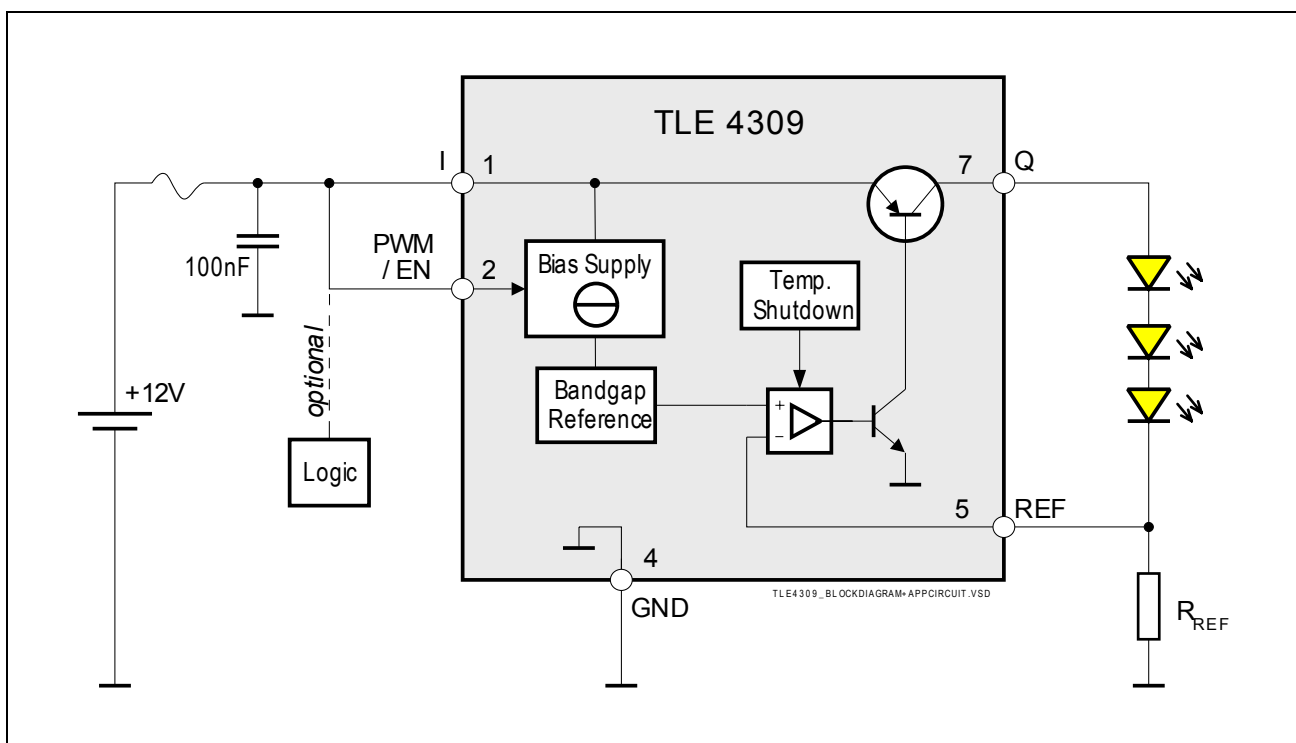

Figure 1 Block Diagram and Typical Application Circuit
1) $(V_Q - V_{\text{REF}})$ equals the forward voltage sum of the connected LEDs, see figure 1.
For a typical application circuit as shown in Figure 1, the following parameters shall apply: